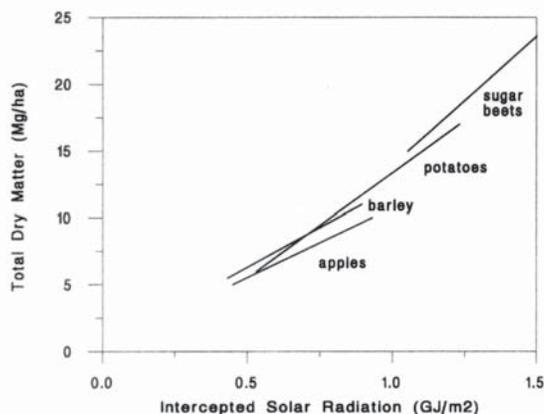

Figure 1. Total dry matter produced by a crop as a function of total intercepted radiation (from Monteith, 1977).
►► a function of the accumulated solar radiation intercepted by the community, the result is a straight line. Figure 1 shows Monteith's results.
The mathematical model suggested by Fig. 1 is